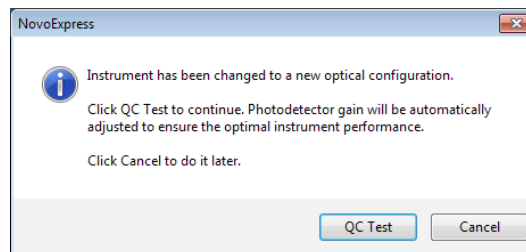

Figure 2-9 Dialog Box for Performing the QC Test
- 9 After NovoExpress is restarted, the following window (Figure 2-9) will appear. Click *QC Test* to continue.